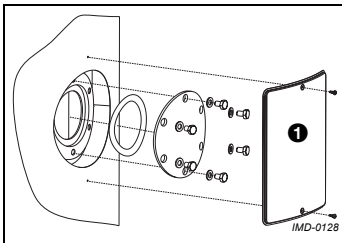

Figure 9.1 Cleaning opening
1. Remove the cover plate ❶ in the outer jacket. See Figure 9.1.